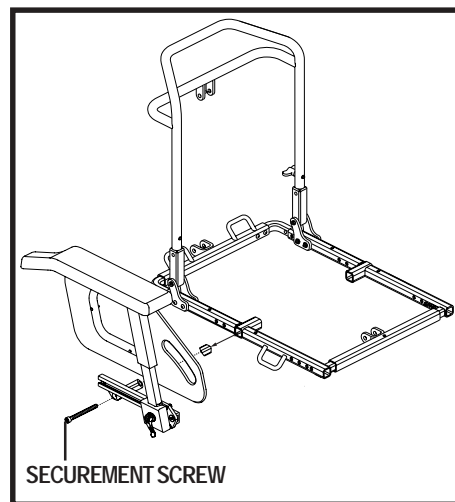

Figure 10. Armrest Width Adjustment
1. Loosen the securement screw located on the bottom of the armrest receiver bracket. See figure 10.